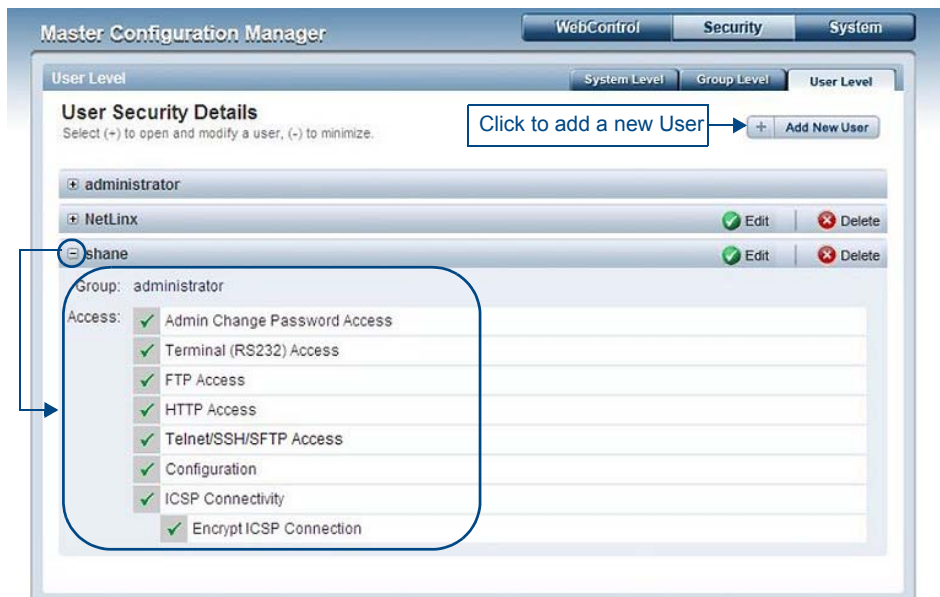
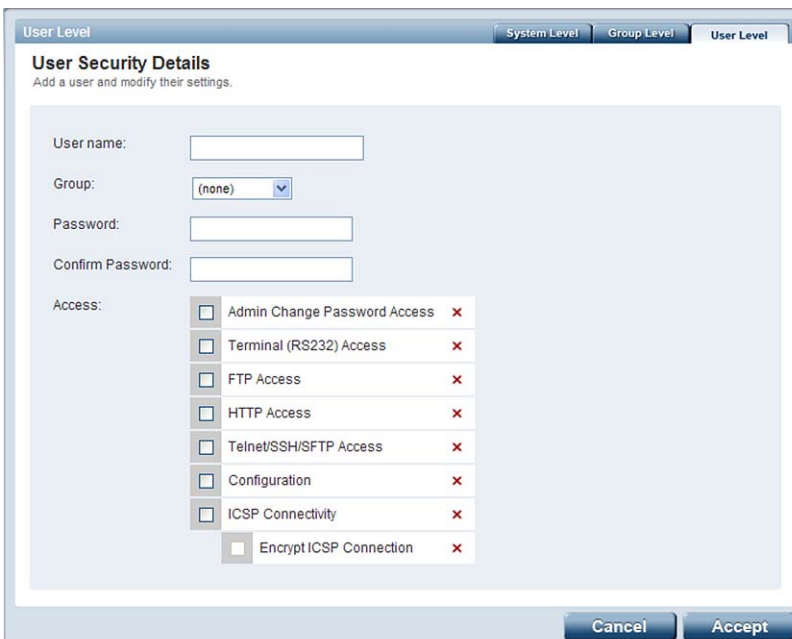

FIG. 43 User Security Settings Page
FIG. 44 User Security Settings Page (Add/Modify User page)
Select the *User Level* tab of the Security Page to access the **User Security Details** page (FIG. 43). The options on this page allow authorized users to add/delete User accounts and configure User's Access rights.
2. Click the **Add New User** button (see FIG. 43) to access the Add/Modify User page (FIG. 44).